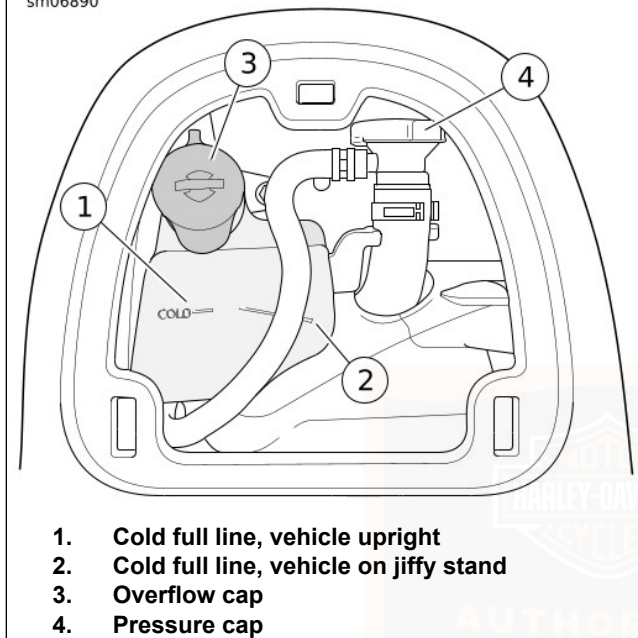

Figure 57. Coolant Level
See Figure 57. The coolant bottle has two lines. Use the angled line (2) when the motorcycle is leaning on the jiffy stand.
2. See Figure 57. Check that coolant level in coolant bottle is at or slightly above the "COLD" line (1).